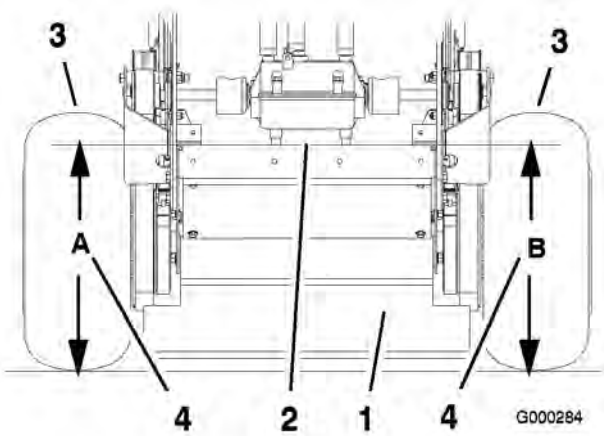

Figure 73
4. Measure engine deck height at location **A** (Figure 73).
- Measure engine deck height at location **B** (Figure 73).